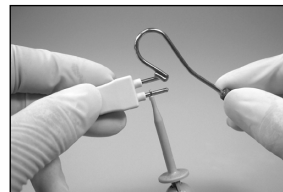

Fig. 10
- ③ Expose a lip hook to the other electrode on the tester. (Fig. 10)